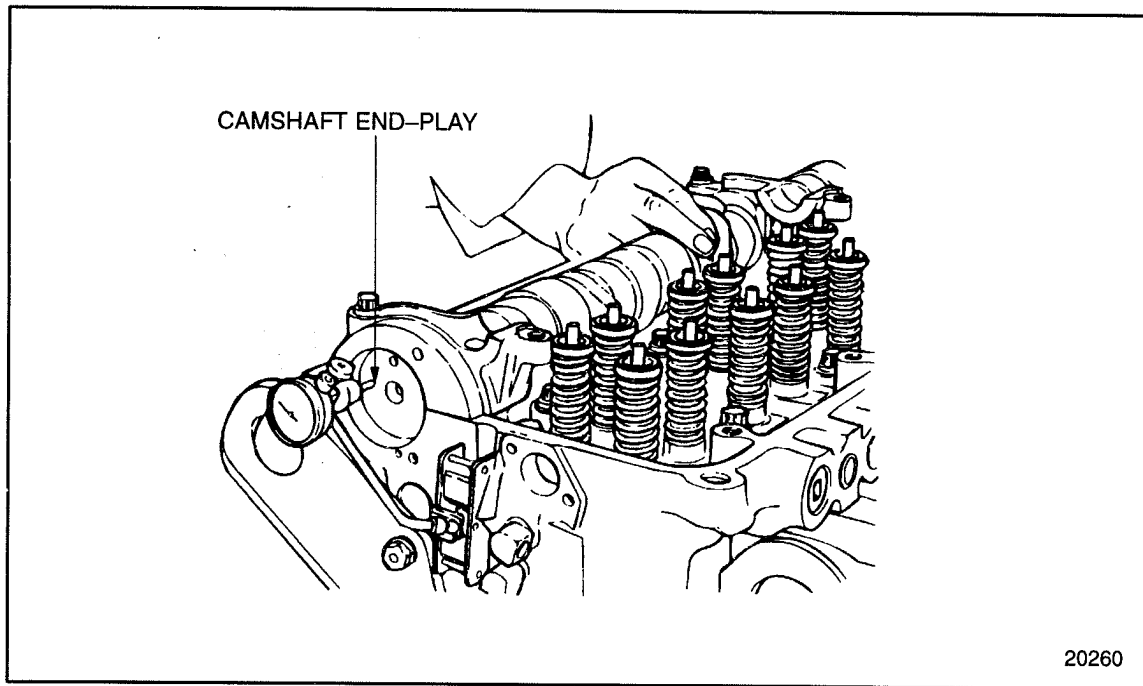

FIGURE 1-290 Camshaft End Play
1. Install the dial indicator so that the pointer is in contact with either the camshaft drive gear-to-camshaft retaining bolt, or at the rear end of the engine, in contact with the end of the camshaft. See Figure 1-290.